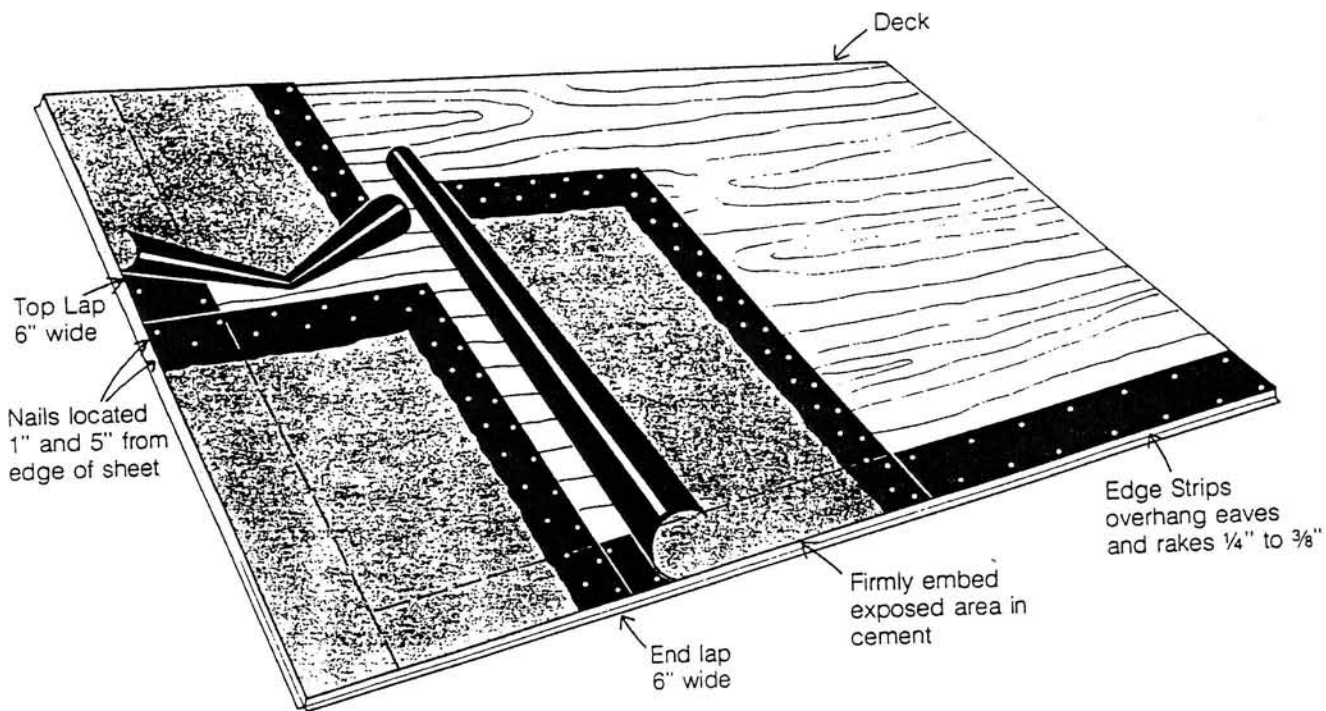

Figure 62: Concealed nail method of applying roll roofing parallel to the rake
**CONCEALED NAIL METHOD.** With this method, illustrated in figure 62, the sheets are applied vertically from the eaves up. Lay the sheets out and let them warm in the sun until they lie smoothly on a flat surface. If you nail the sheets before they have time to relax, wrinkling may occur.